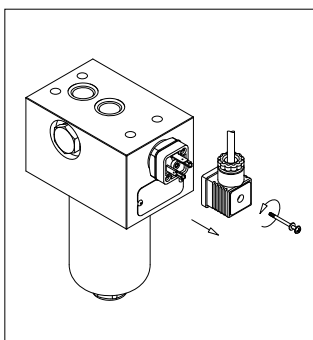

fig. 9
- (Fig. 9) Remove the connector of the differential indicator by unfastening the central screw (only for electrical indicators).
- For the mounting/dismounting of the indicator, please refer to the paragraph “Clogging indicator replacement” above (Fig. 9÷12)